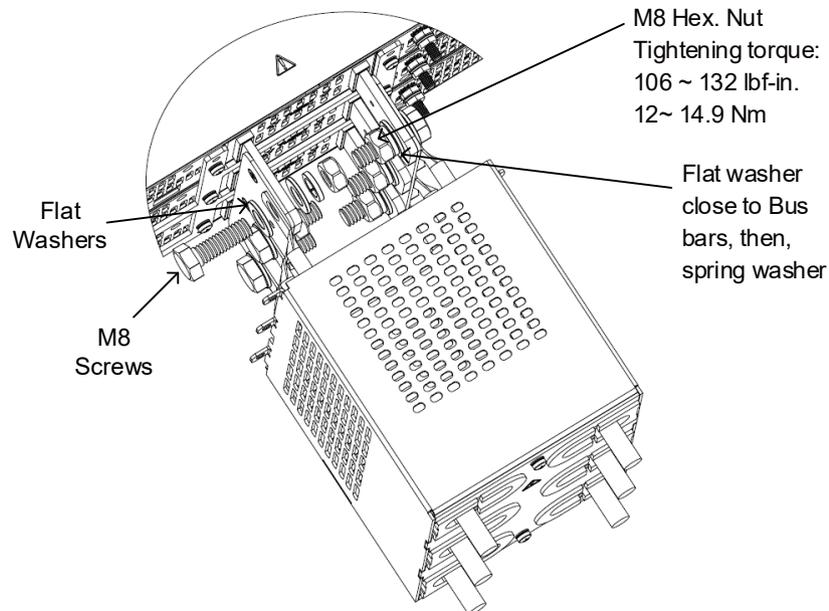

Figure 4-55: Assembly of 60V - 100V Wires
2. Fix the wires to the Bus bars as shown in Figure 4-55 (15kW is shown, it applies to 10kW as well).